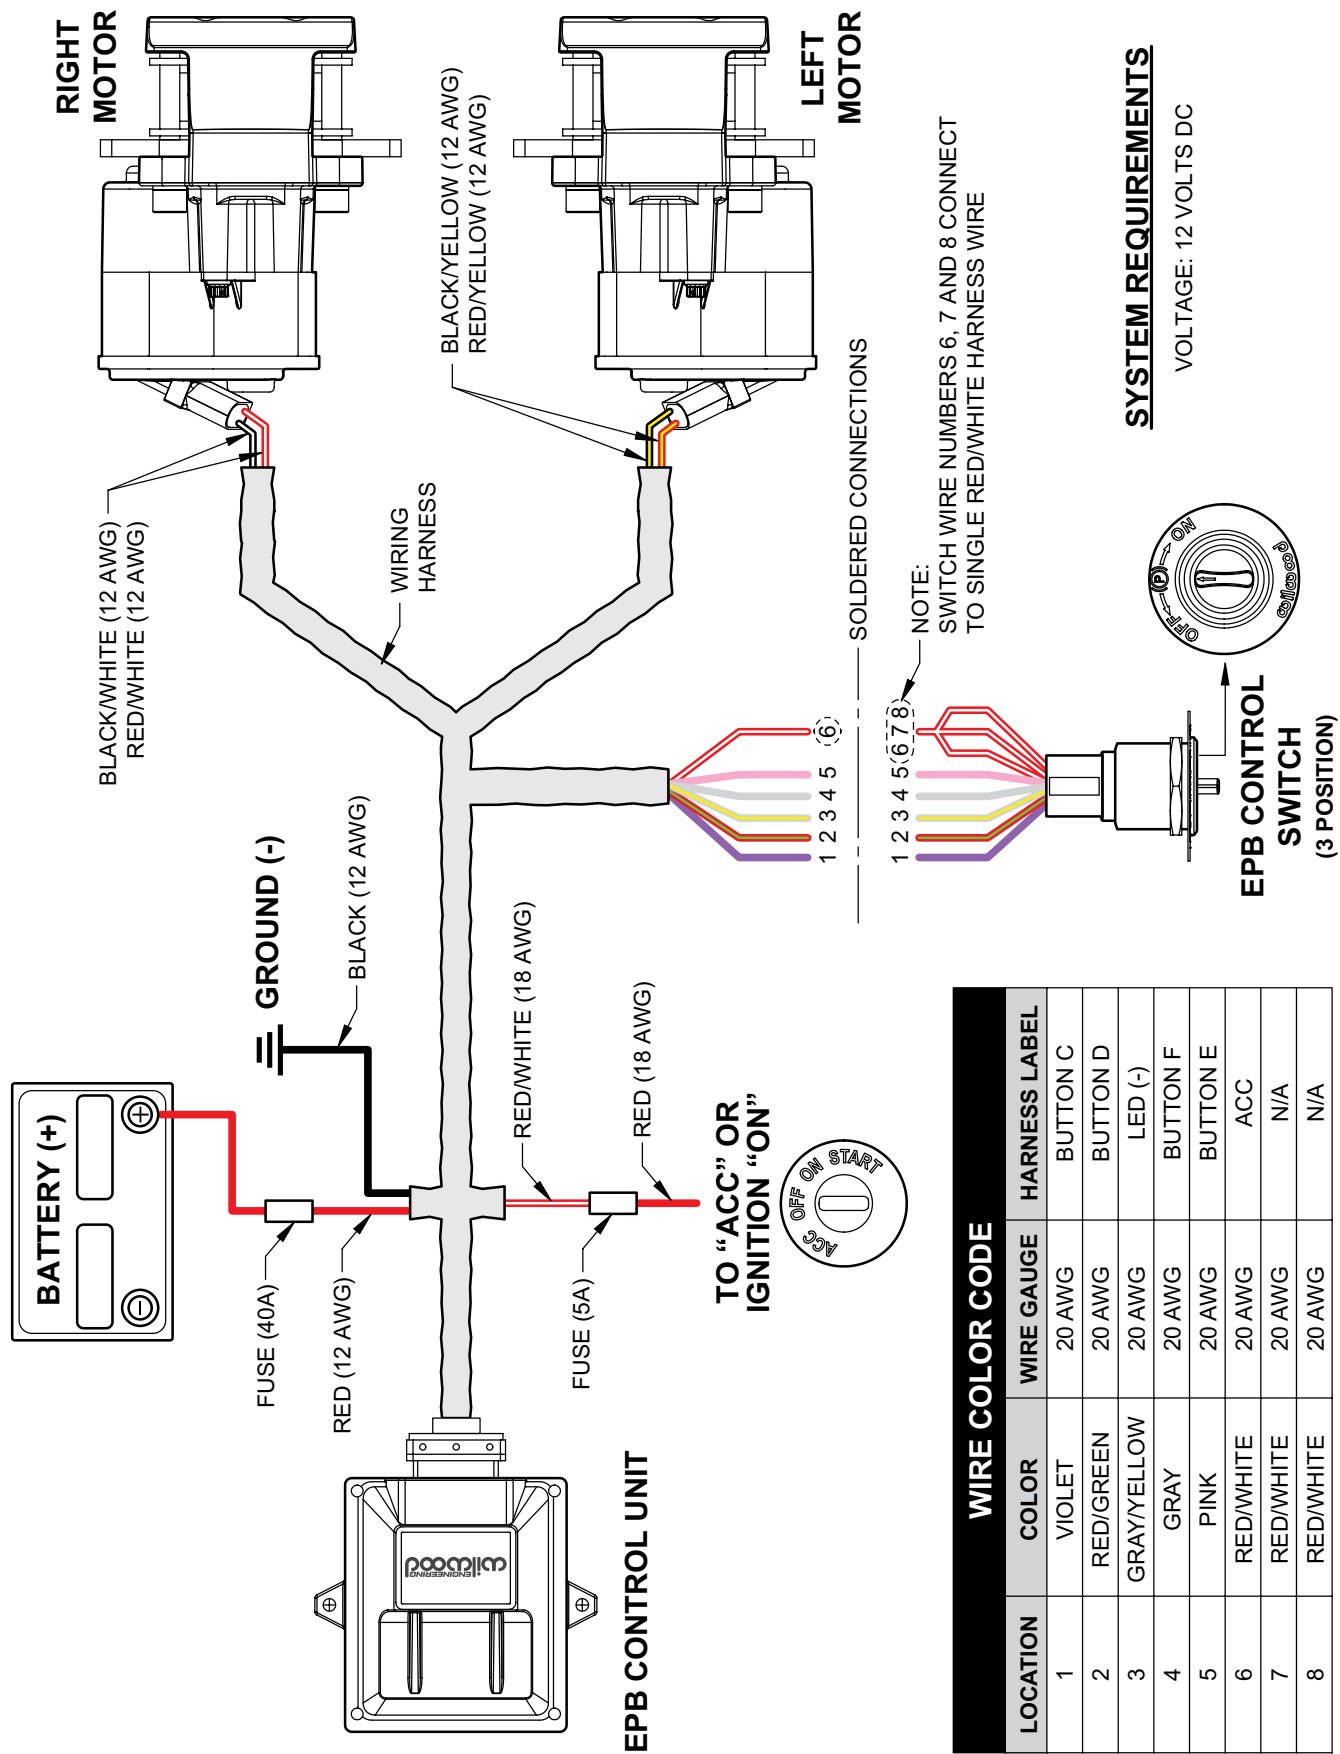

Figure 4. EPB Wiring Diagram
- **EPB WIRING HARNESS** - All wiring harness leads are labeled – refer to wiring diagram, Figure 4. Carefully route harness cables/wires to prevent contact with moving or rotating components and away from heat sources and pinch points. **NOTE:** *Wilwood EPB harness is designed for use in many different vehicle applications and it is the installer's responsibility to properly route cables/wires and ensure adequate clearance and retention for EPB components.*
Wiring installation - Refer to wiring diagram, Figure 4